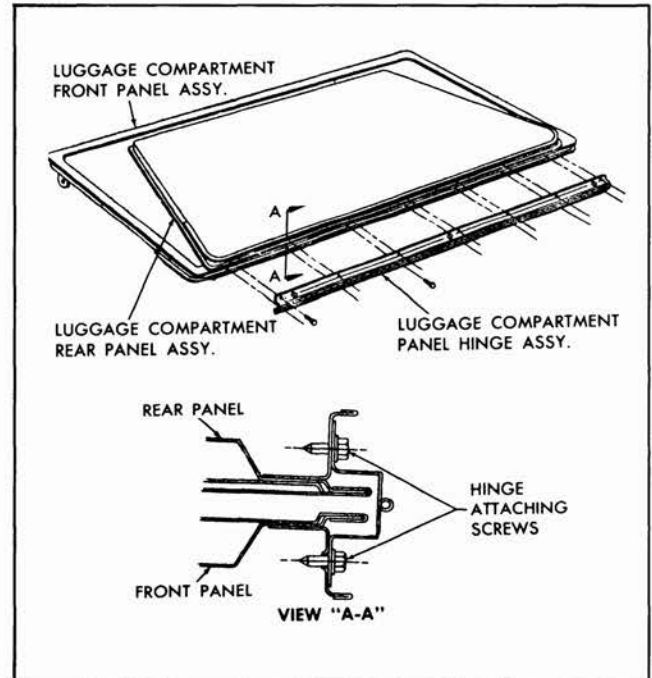

Fig. 8-4 Luggage Compartment Hinge Attachment
1. On "35" style, use handle and fold rear luggage compartment panel forward until it is resting entirely on front luggage compartment panel (Fig. 8-4).
1. Using handle, fold rear luggage compartment panel forward until it is resting entirely on front luggage compartment panel (Fig. 8-4).
2. Remove screws securing hinge assembly to both front and rear panels and remove hinge from body (see view "A-A", Fig. 8-4).